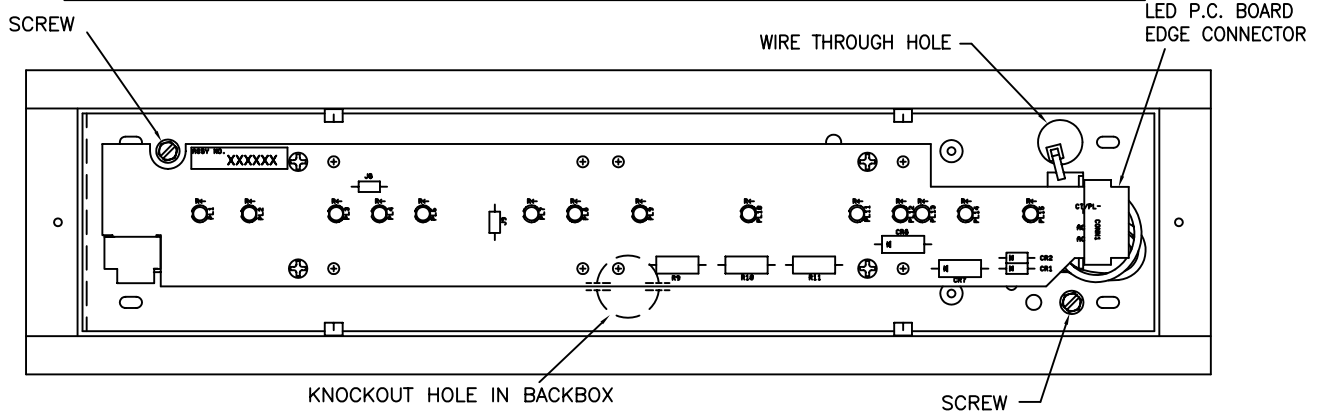

FIGURE 3
1. Remove chassis assembly from backbox by removing screw at each end. Save screws. (See Figure 3)
6. Reconnect 4 circuit connector from chassis assembly to AC supply. Replace chassis assembly (to replace correctly, make certain that wire through hole on chassis is positioned opposite knockout hole inside backbox) and secure with saved screws. (Figure 3)